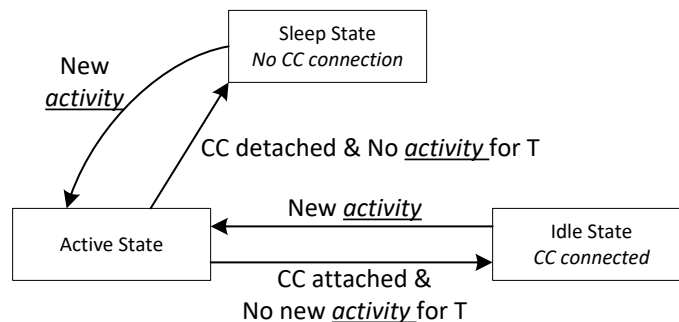

Figure 7-25. Flow Diagram for Power States
The TPS26750A can operate in one of three different power states: Active, Idle, or Sleep. The Modern Standby mode is a special case of the Idle mode. The functionality available in each state is summarized in Table 7-7. The device automatically transitions between the three power states based on the circuits that are active and required. See Figure 7-25. In the Sleep state, the TPS26750A detects a Type-C connection. Transitioning between the Active mode to Idle mode requires a period of time (T) without any of the following activity: